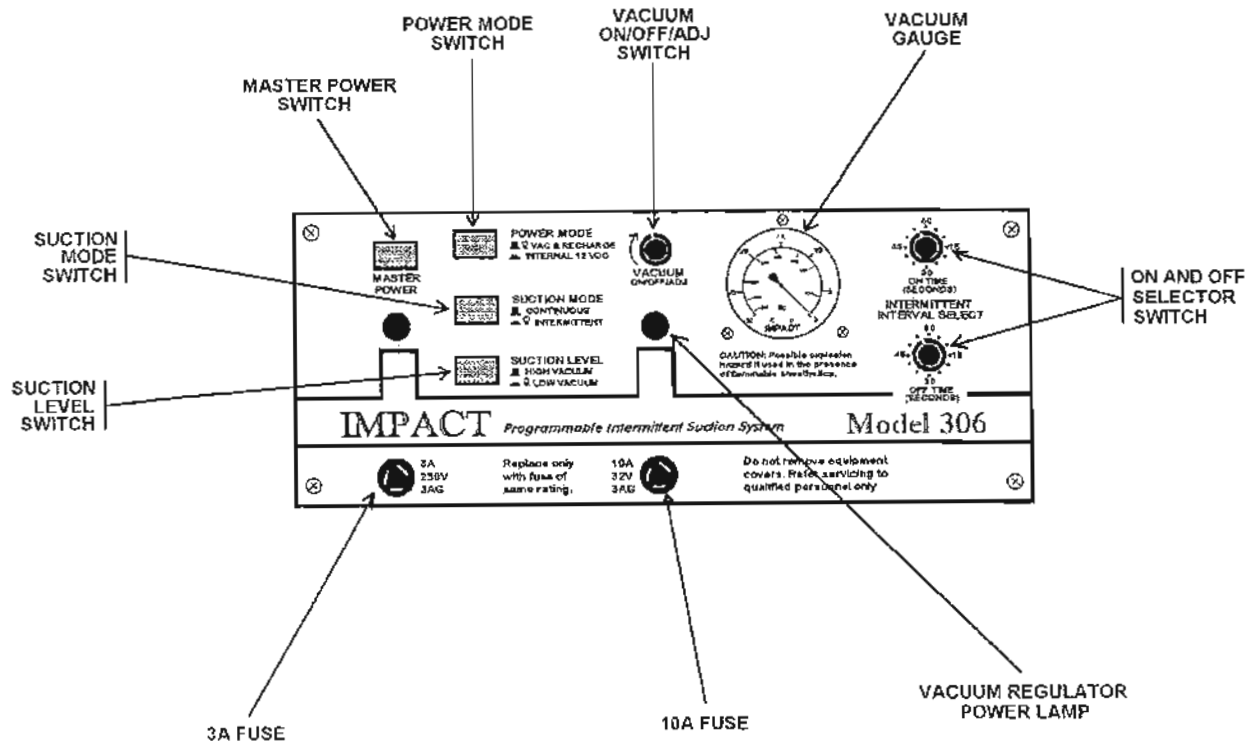

Figure 2-3. Front panel controls and indicators.
a. Front panel controls and indicators (fig 2-3).